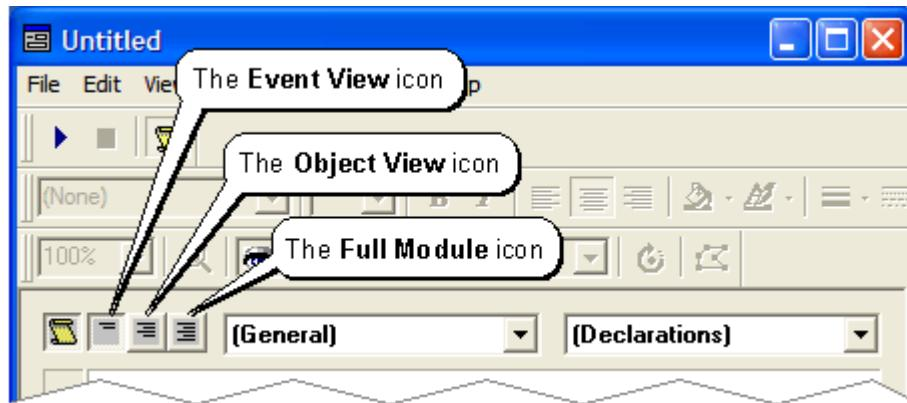

Figure 4-22. The Event View, Object View, and Full Module icons.
- 10) Now, observe the three icon buttons located just above the editing area on the left-hand side (Figure 4-22). The leftmost of these three icons is known as the **Event View**. While in this mode, the edit window will display only the code associated with the combination of the object selected in the left-hand drop-down list and the event type